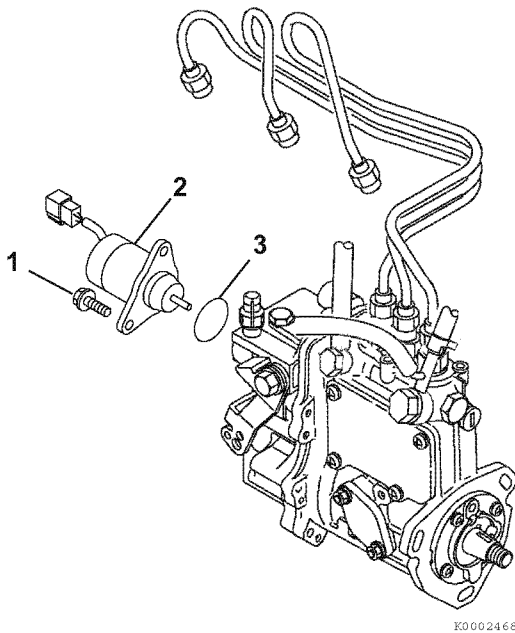

Figure 7-29
3. Remove two screws (1, **Figure 7-29**). Remove the stop solenoid (2, **Figure 7-29**) and O-ring (3, **Figure 7-29**).